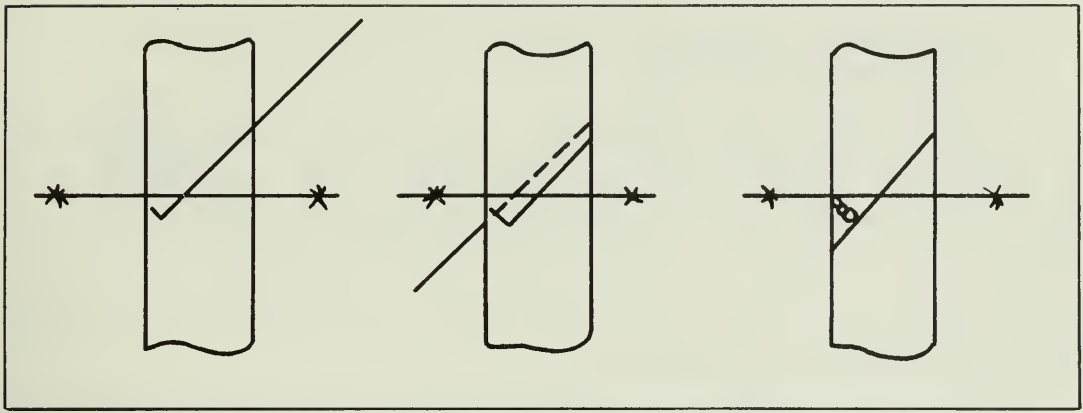

Fig. 41 Single wrap for dropper attachment.
4. Some droppers are attached with wire knots, depicted in Figs. 41, 42, and 43.